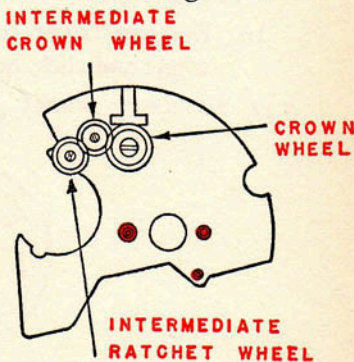

FIG. 14
15. Remove crown wheel, intermediate crown wheel, and intermediate ratchet wheel under the train bridge. See Fig. 14. These screws all have right threads.